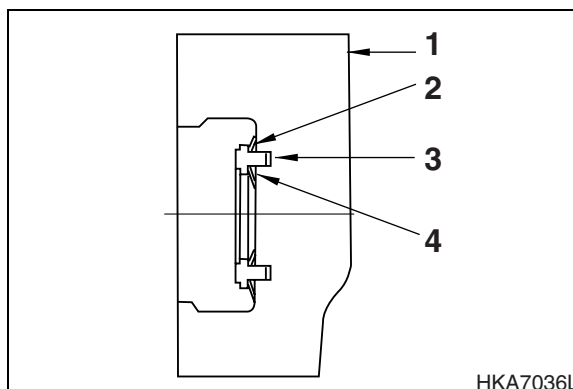

Figure 36
14. After matching up the cutting face of balance plate (3, Figure 36) to pin, assemble it to valve housing (1).